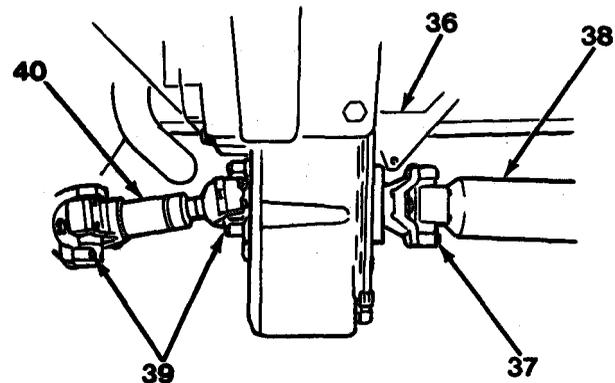
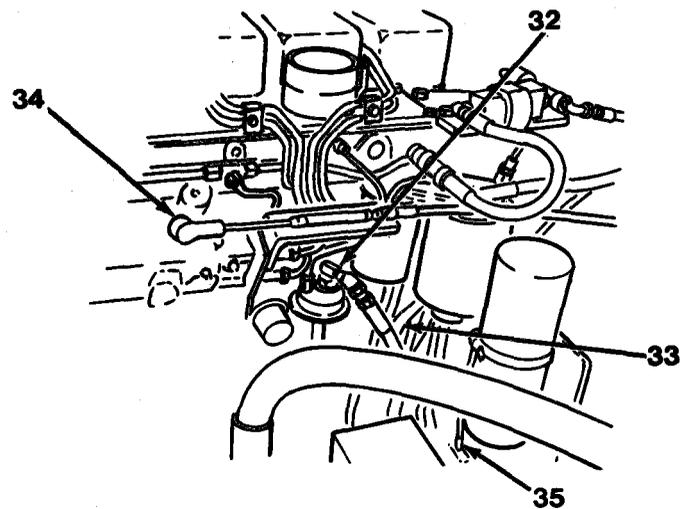

Figure 6-5
Figure 6-4
2. Install rear drive shaft (40) and eight cap screws (39, Figure 6-5) to transmission and rear axle. Torque eight cap screws (39) to 50 lb-ft (68 N•m).
3. Connect front drive shaft (38) and install four cap screws (37) to transmission. Torque four cap screws (37) to 50 lb-ft (68 N•m).
4. Install shift bracket (36) as an assembly (refer to page 11-81 and adjust per page 17-49).
5. Connect cold start cable (35), injector pump throttle cable (34) and fuel hoses (33) and (32, Figure 6-4).